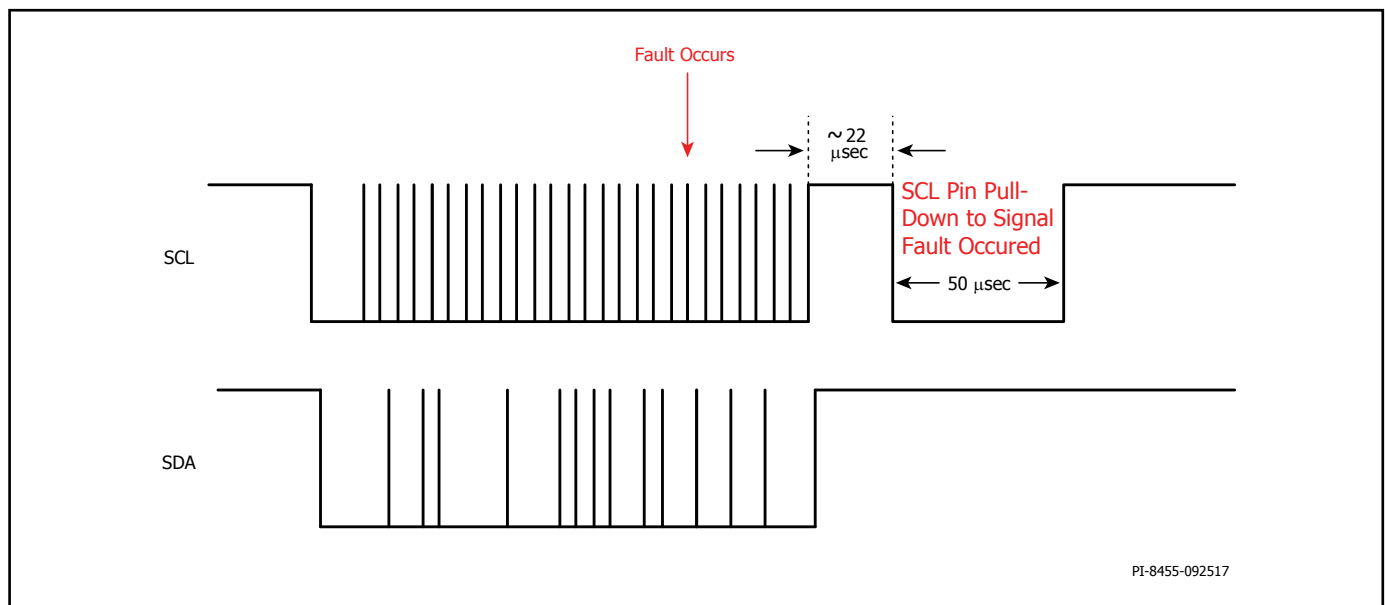

Figure 20. Interrupt Mask During Active I2C Transaction.
2. When the SCL pin is busy (active I2C transaction) (see Figure 20), the fault interrupt will wait for the I2C transaction to be completed, wait  $\sim$ 22  $\mu$ sec and then pull down the SCL line for 50  $\mu$ sec (minimum) then releases it back to HI State.